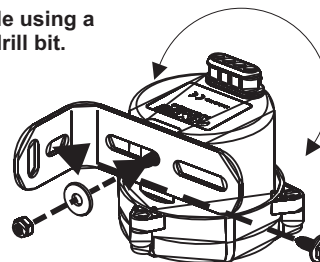

Fig.1
- The L-bracket can be attached on the long or short side (Fig. 1).